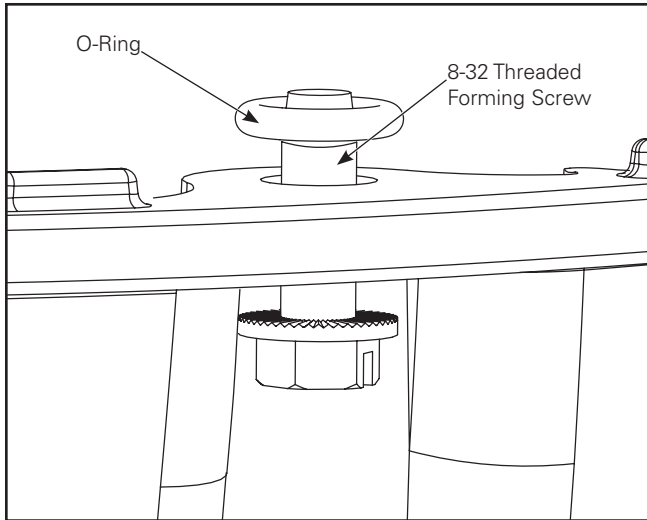

Figure 1.
1. Insert provided 8-32 x 1/2" thread forming screws into mounting holes. Place 1/8" O-rings over screw threads to hold screws within refractor. (Figure 1.)